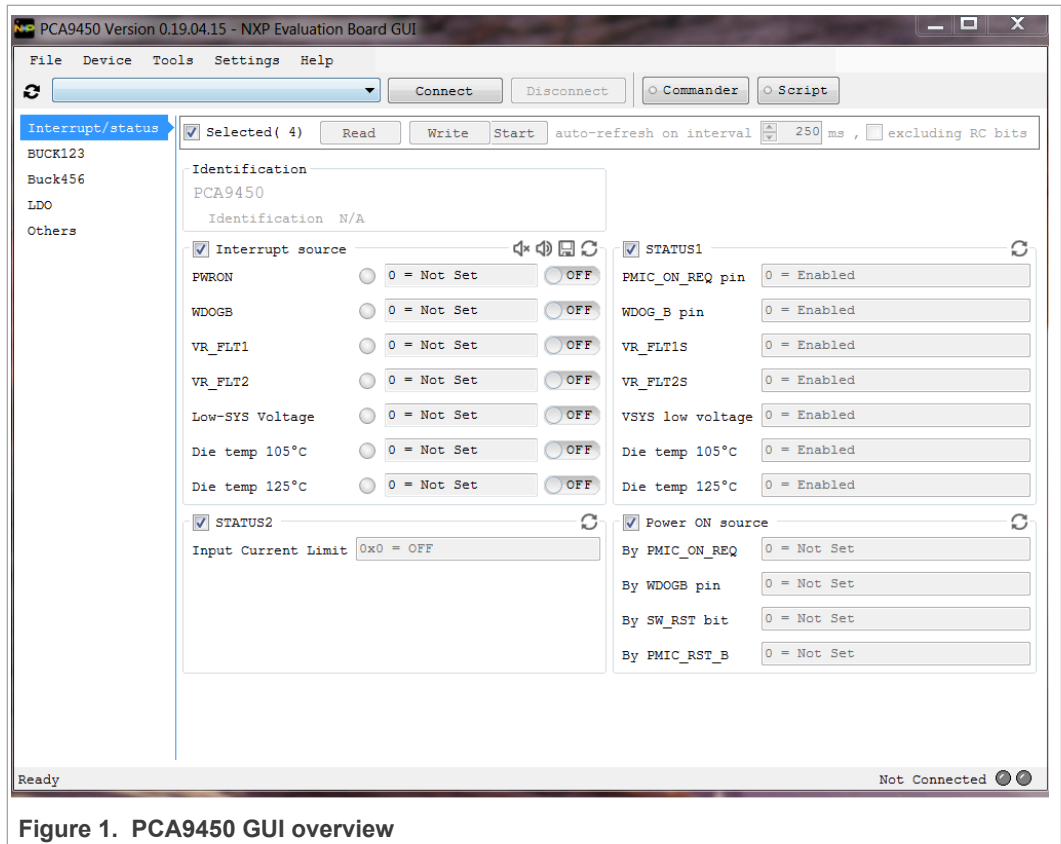

Figure 1. PCA9450 GUI overview
- Run the file PCA9450.exe. The interface is shown in Figure 1.